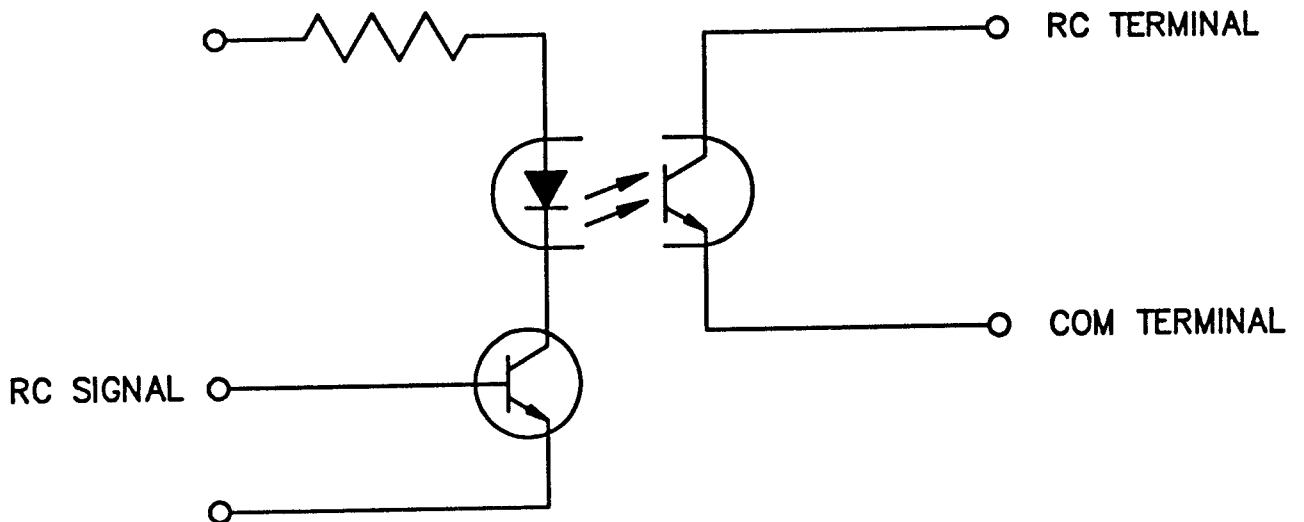

FIGURE 3 RECOMMENDED REMOTE ON/OFF INPUT CIRCUIT TO THE RC TERMINAL OF THE FPD 100-24 POWER SUPPLY
The following input signals applied to the RC terminal, control the output voltage (see Figure 3).
3. The input circuit to the RC terminal should be designed with a photo coupler or relay (see Figure 3)